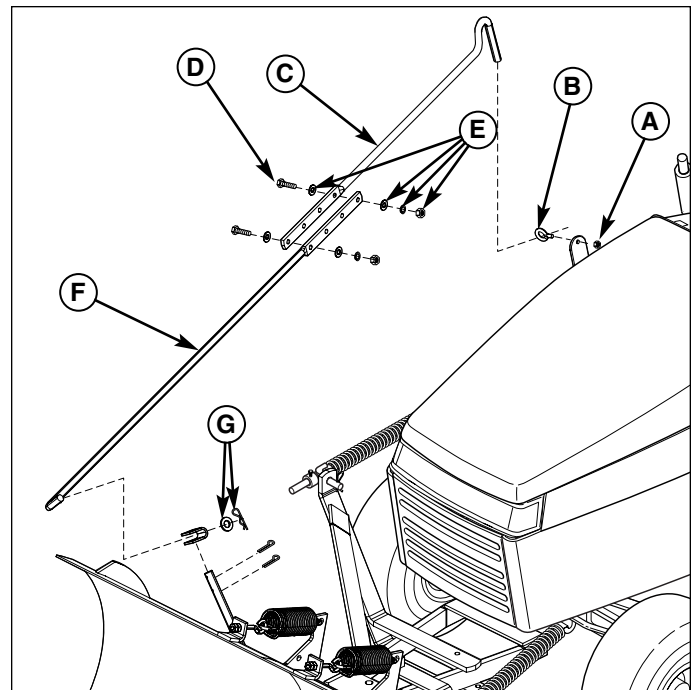

Figure 24. Assemble Control Rods
3. Connect the lower angling rod (F, Figure 24) to the dozer release lever using a hair pin clip and washer (G).
4. Insert the upper control rod (C) through the eyelet (B), and secure the eyelet to the support using a 1/4-20 nylock nut (A).
NOTE: It may be necessary to leave the eyelet nut (A, Figure 24) loose to prevent binding.